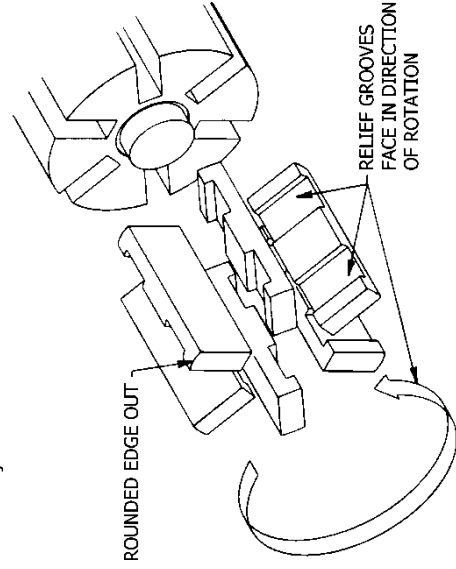

Figure 4 – Vane Replacement
4. Install a new vane, ensuring that the rounded edge is UP, and the relief grooves are facing towards the direction of rotation. See Figure 4.
4. Install the head (20) on the outboard side of the cylinder. Install and snug up four head cap screws (21) 90° apart.
5. Hand pack the ball bearing (24) with grease. Refer to "Lubrication" in the Pump Maintenance Section for the recommended grease.
8. Remove the vanes (14) and push rods (77) from the rotor and shaft assembly. Inspect for wear and damage, and replace as follows:
- a. Partially install the non-driven end of the rotor and shaft (13) into the open side of the pump cylinder.
- b. Leave part of the rotor outside of the cylinder so that the bottom vanes can be installed and held in place as the push rods are installed in the push rod holes of the rotor. Insert the new vanes into the rotor slots with the rounded edges outward, and the vane relief grooves facing TOWARDS the direction of rotation. Refer to Figure 4 in "Vane Replacement."